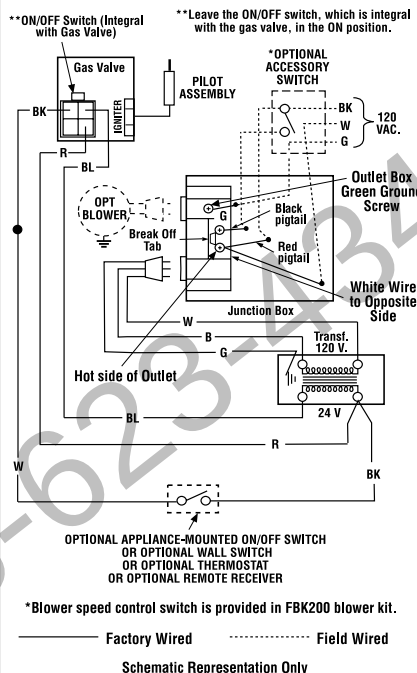
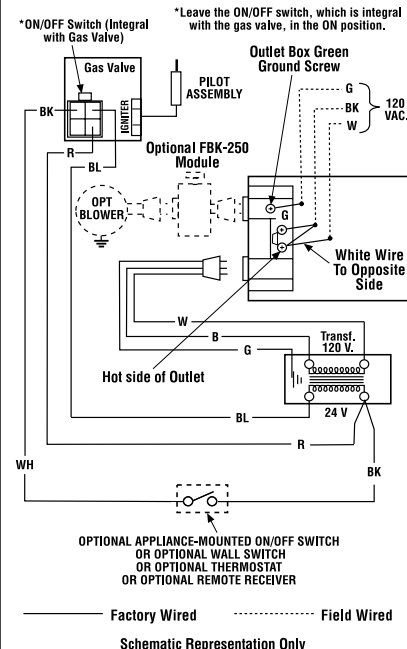

Figure 48
Figure 49
B. Electronic Wiring (See figure 48 or 49) –
3. Connect the power supply wires (including the ground supply wire) as shown in **Figures 48 or 49**. (If the field-provided J-box/outlet box is being used, all of the outlet box wiring must be field-provided.)
Note: The gas valve-mounted ON/OFF switch is shown in **Figure 48 or 49**. It is integral with the gas valve and should be set to the ON position.
(See **Figure 48** for **FBK-100, FBK-200** and **Figure 49** for **FBK-250** wiring) -
IMPORTANT: Ground supply wire must be connected to the green wire attached to the outlet receptacle's green ground screw. **See Figure 48 or 49**. Failure to do so will result in a potential safety hazard. The appliance must be electrically grounded in accordance with local codes or, in the absence of local codes, the National Electrical Code, ANSI/NFPA 70-(latest edition). (In Canada, the current CSA C22-1 Canadian Electrical Code.)